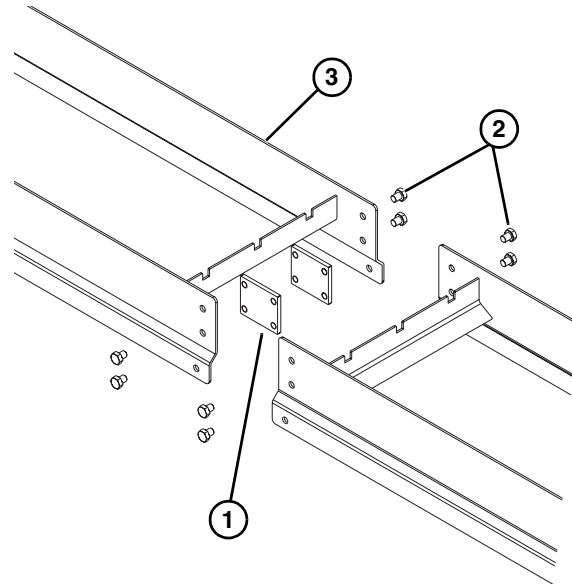

Figure 4
Typical Connecting Components (Figure 4).
1. Join both conveyor sections, and install plate frame connectors (Figure 4, item 1), and secure with M10x12 hex head cap screws (Figure 4, item 2) on both sides.